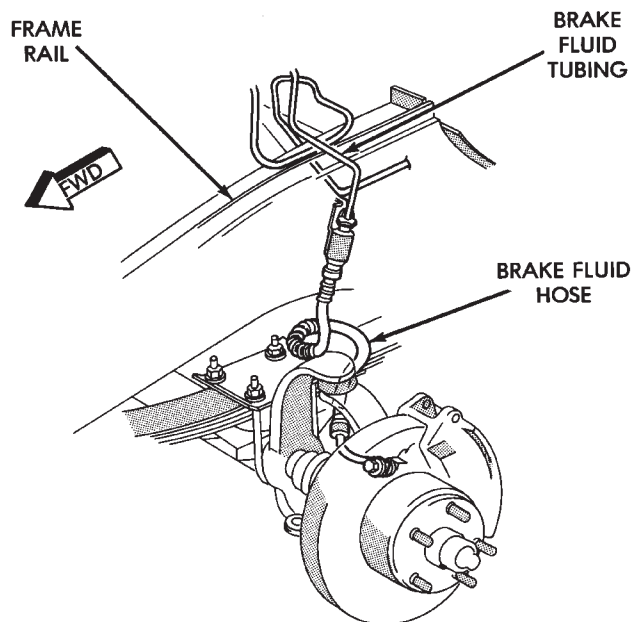

Fig. 9 Rubber Brake Fluid Hose—Typical
(1) Inspect all brake fluid rubber hoses (Fig. 9) for cracks, swelling, kinks, a distorted condition and fluid leakage.
(2) Inspect the brake fluid hoses and tubing that are routed along the frame rail.